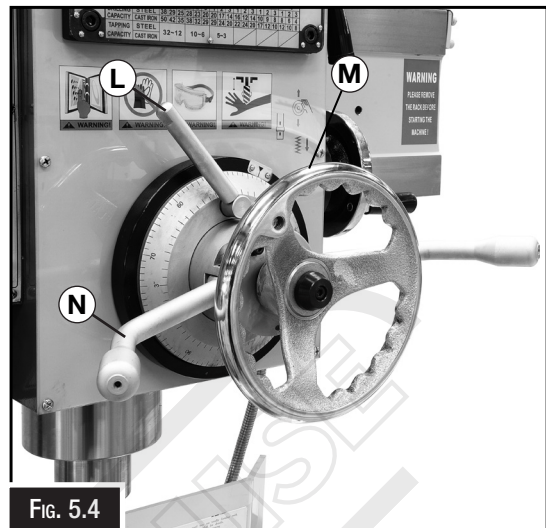

Fig. 5.4
- L. Depth Stop Clamp:** Clamps the depth stop dial after it has been set. (Fig. 5.4)
The graduation collar is used to set the drilling depth, e.g. when spindle drill touch the table surface, To perform the 30mm drilling depth process, the graduation dial should be set to 30, then locked with the eccentric lever (L in Fig 5.4). It should be locked when performing the auto feed.
- N. Spindle & Feed Handle:** Used to raise and lower the spindle. Also when pushed towards the machine, engages the auto feed to the spindle. (Fig. 5.4)